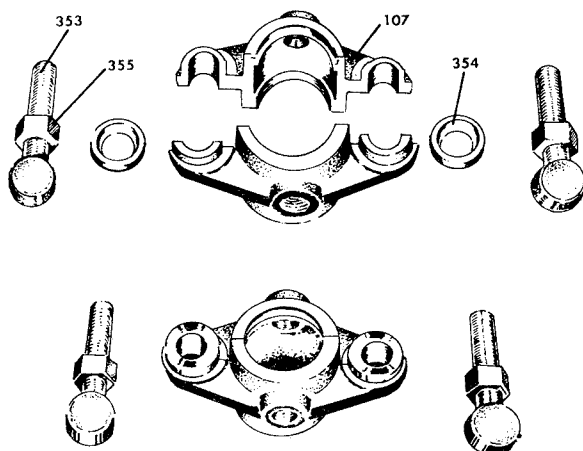

Figure 9
(f) Run ½"—13 UNC nuts (355) about three-fourths the length of the threaded part of bolts (353) and place cupped washers (354) on gland bolts. (See Fig. 9).